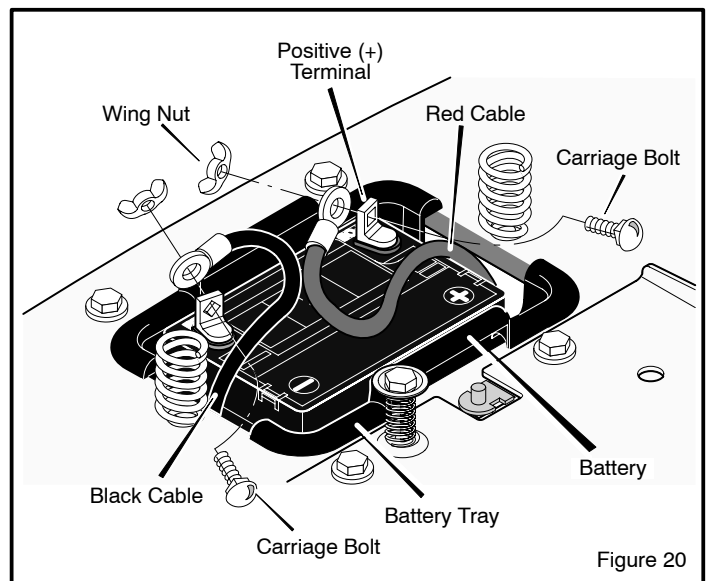

Figure 20
1. Disconnect the **black cable** from the negative (-) terminal (Figure 20).